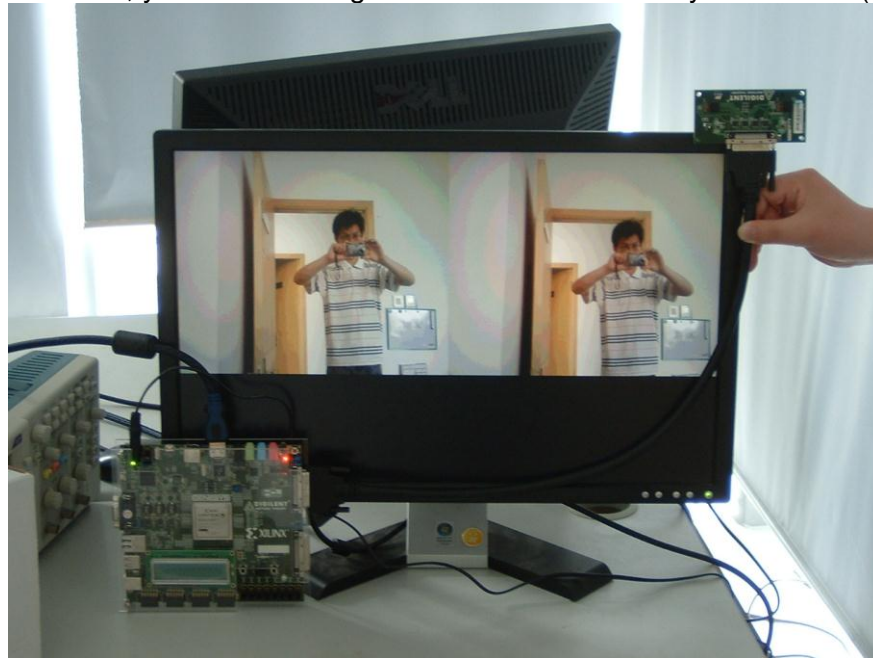

Fig. 3 Demo on Genesys with VmodCAM Rev C
- It takes less than a minute to get both cameras configured through lic interface. After the configuration is done, you will see images from both sensors on your monitor (fig. 3).